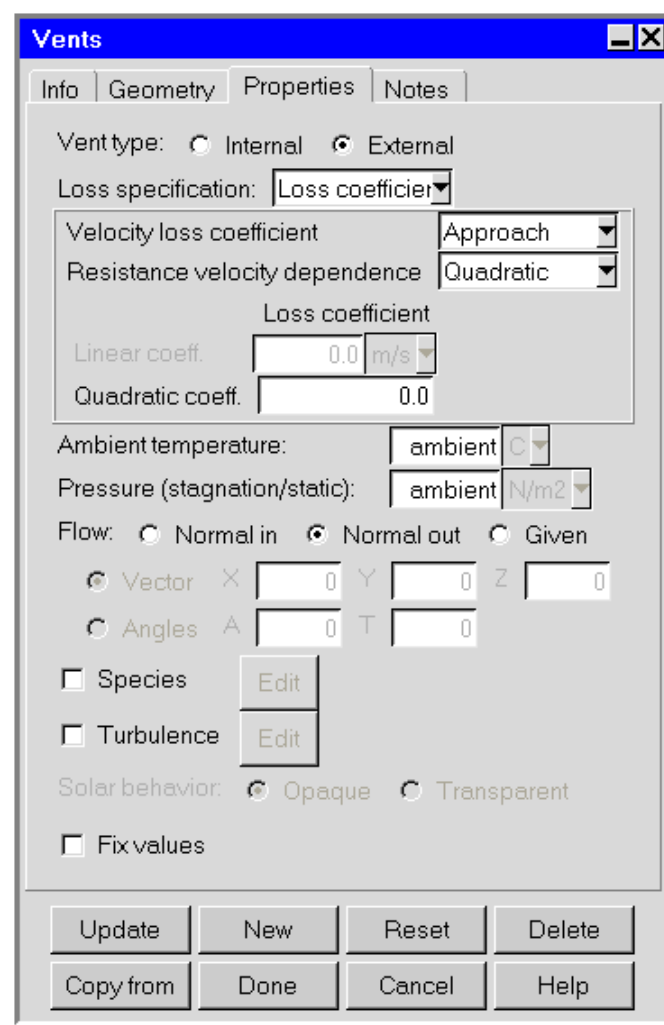
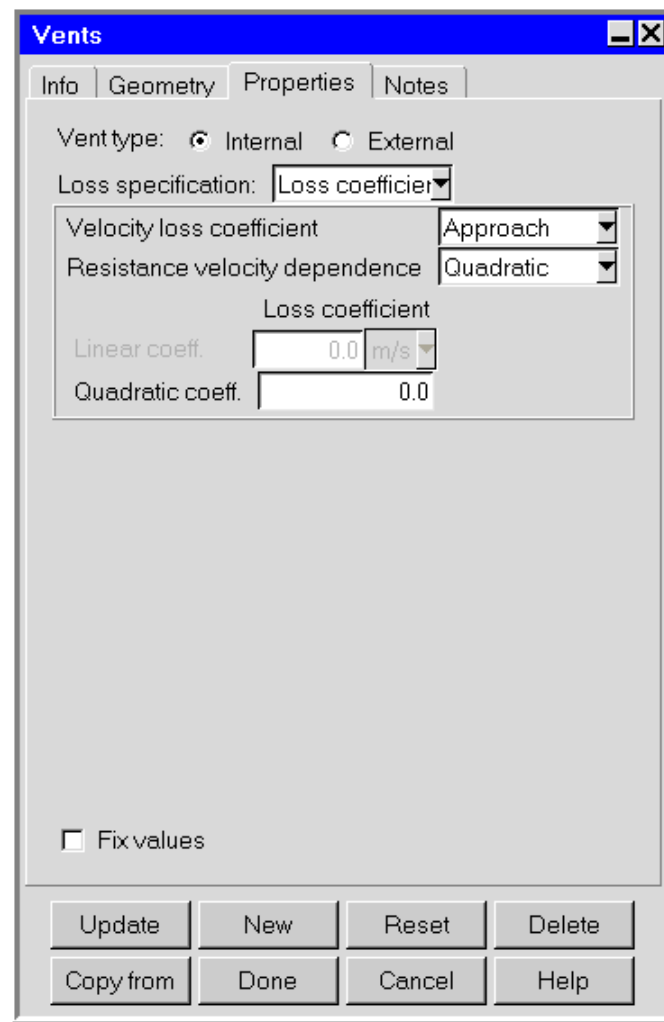

Figure 10.5.2: The Vents Panel (Properties Tab) for an External Vent
Figure 10.5.3: The Vents Panel (Properties Tab) for an Internal 2D Resistance Vent
- (a) Specify the **Vent type** as **Internal** (Figure 10.5.3) or **External** (Figure 10.5.2). Choose **Internal** for a 2D resistance vent.